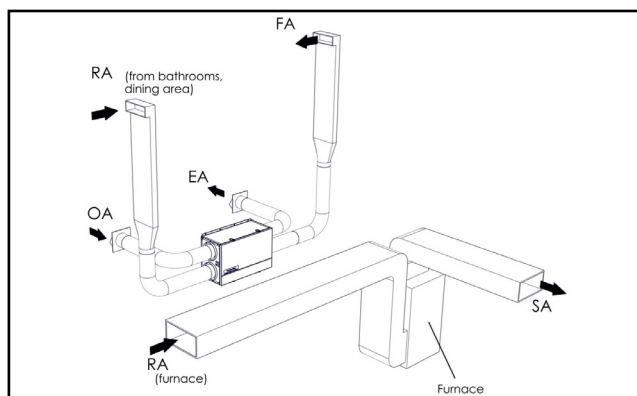

FIGURE 2.4.1 SEPARATE RETURN AIR AND FRESH AIR SUPPLY, EV130 SHOWN
• FOR HOUSES WITHOUT DUCTED HEATING OR COOLING SYSTEMS—SEE FIGURE 2.4.1.